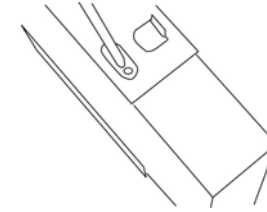

Figure 8
4.1) Fasten the CD-ROM on the 3rd hole of the bracket. (See Figure 8)